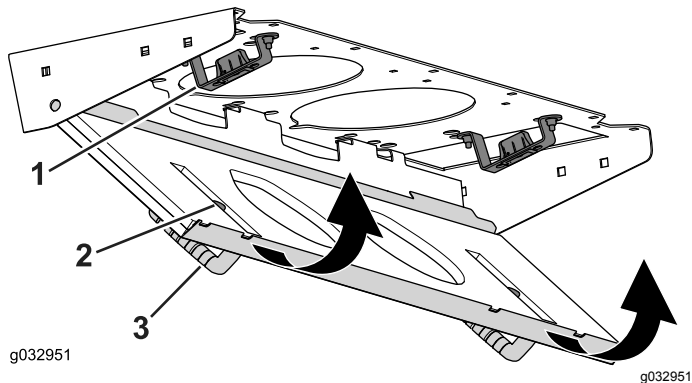

Figure 95
- Rotate the filter screen around the tabs until the latch locks into the latch-mount assembly (Figure 95).